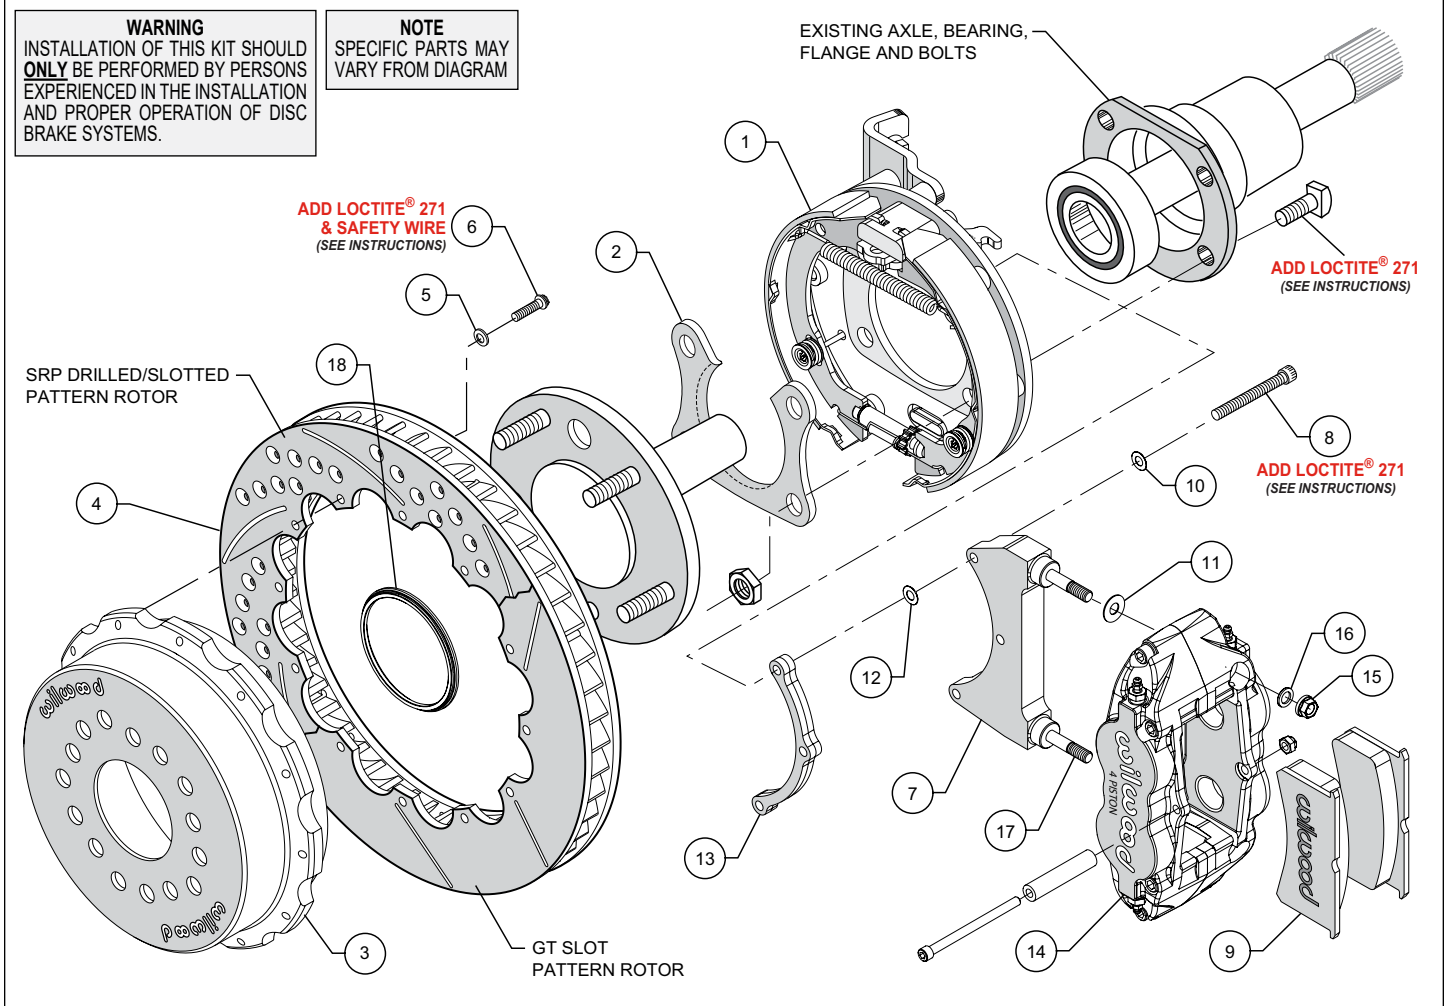

Figure 1. Typical Installation Configuration
- Slide the bracket kit assembly (1) onto the housing flange and then insert the axle assembly through the center hole of the bracket kit assembly (1). Align the bearing retainer, as shown in Figures 1 and 4, and secure using the stock Original Equipment Manufacturer (OEM) bolts and nuts. Stock OEM hex nuts that retain the bracket kit assembly (1) and retainer (2) should be on the wheel side of the bracket. Apply red *Loctite*® 271 to the stock OEM bolt threads and torque to OEM specifications. Make sure the bracket kit assembly (1) brake pads are FACING OUTWARD TOWARDS THE WHEEL.
•**NOTE:** Please reference the caution statement at the beginning of the assembly instructions. The caliper mounting bracket assembly (7) should be installed first with clean, dry threads on the mounting bolts (8). Install the bracket from the rear side of the bracket kit assembly (1) by sliding bolt (8) through flat washer (10), bracket (7), shim washer (12) and finally through the spacer (13), see Figure 1. **NOTE:** End of bolt should not exceed inside face of insert. The bracket must tighten squarely against the back side of the bracket kit assembly (1). Inspect for interference from casting irregularities, machining ridges, burrs, etc. Use one thin shim (12) between the bracket (7) and spacer (13) during initial trial fitting.
• Install one shim (11) over each pre-installed stud (17) on the radial mount bracket (7). Slide the caliper (14) in place over the studs and rotor, then install the washer (16) and lock nut (15) to hold the caliper in place. Snug the lock nuts (15) and check that the rotor (4) is centered in the caliper (14). Add or subtract .015" shims (12) as necessary between the caliper mounting bracket (7) and the spacer (13) to center the caliper (14).
• Remove the caliper center bridge pad retainer bolt, nut, and tube from the caliper. Slide the brake pads (9) into place. They should install easily without interference. Check that the outside radius of the brake pad is aligned with the outside diameter radius of the rotor face. Add or subtract shims (11) between the caliper (14) and mount bracket (7) to gain the proper alignment. Reinstall the center bridge pad retainer tube, bolt, and locknut. The locknut should be snug without play in the bolt or tube. Be cautious not to over tighten.
• Adjust the parking brake shoes outward (using a drum shoe adjustment tool available at your local auto parts store) while spinning the hat (3) until a slight drag is felt against the hat/drum. Remove the lug nuts that were holding the hat/rotor in place. Install the wheel and lug nuts. Check to see that the wheel rotates freely without interference.
• Once all clearances have been checked, remove the wheel, caliper, hat/rotor from the bracket kit assembly (1). Secure the caliper mounting bracket (7) to the bracket kit assembly (1) using red *Loctite*® 271. Torque bolts (8) to 180 in-lb. Reinstall the hat/rotor assembly and again use lug nuts to hold it in place. Reinstall the caliper and torque the caliper nuts (15) to 30 ft-lb.
•**NOTE:** Clevis and cable kits which attach to the parking brake assembly are not included in the Wilwood parking brake kit. Wilwood offers a generic style parking brake cable kit, P/N 330-9371 for this application which can be ordered separately from your local Wilwood dealer or by calling Wilwood customer service at (805) 388-1188.